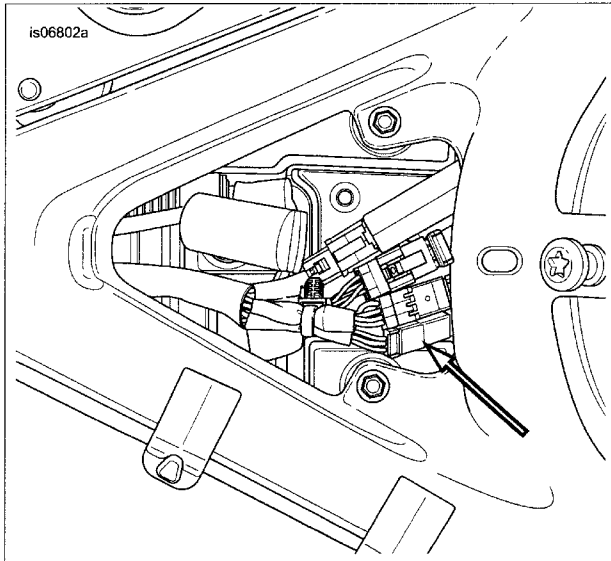

Figure 2. Rear Lighting Harness Connector
- See Figure 2. Locate and disconnect rear lighting harness connector [40B] from the main wiring harness connector [40A].
- Connect interconnect harness (3) to rear lighting harness connector [40B] and main wiring harness [40A].